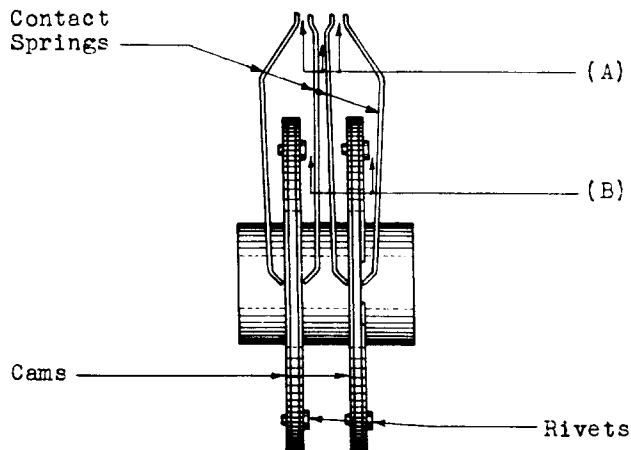

Fig. 4
2.07 Clearance Between Adjacent Contact Springs and Between the Springs and Framework: Fig. 4(A) — The clearance, under
2.08 Clearance Between the Inner Surface of the Contact Springs and the Heads of the Rivets: Fig. 4(B) — The clearance between the inner surface of the contact springs and the heads of the rivets when the contact springs are resting on the insulation shall be: